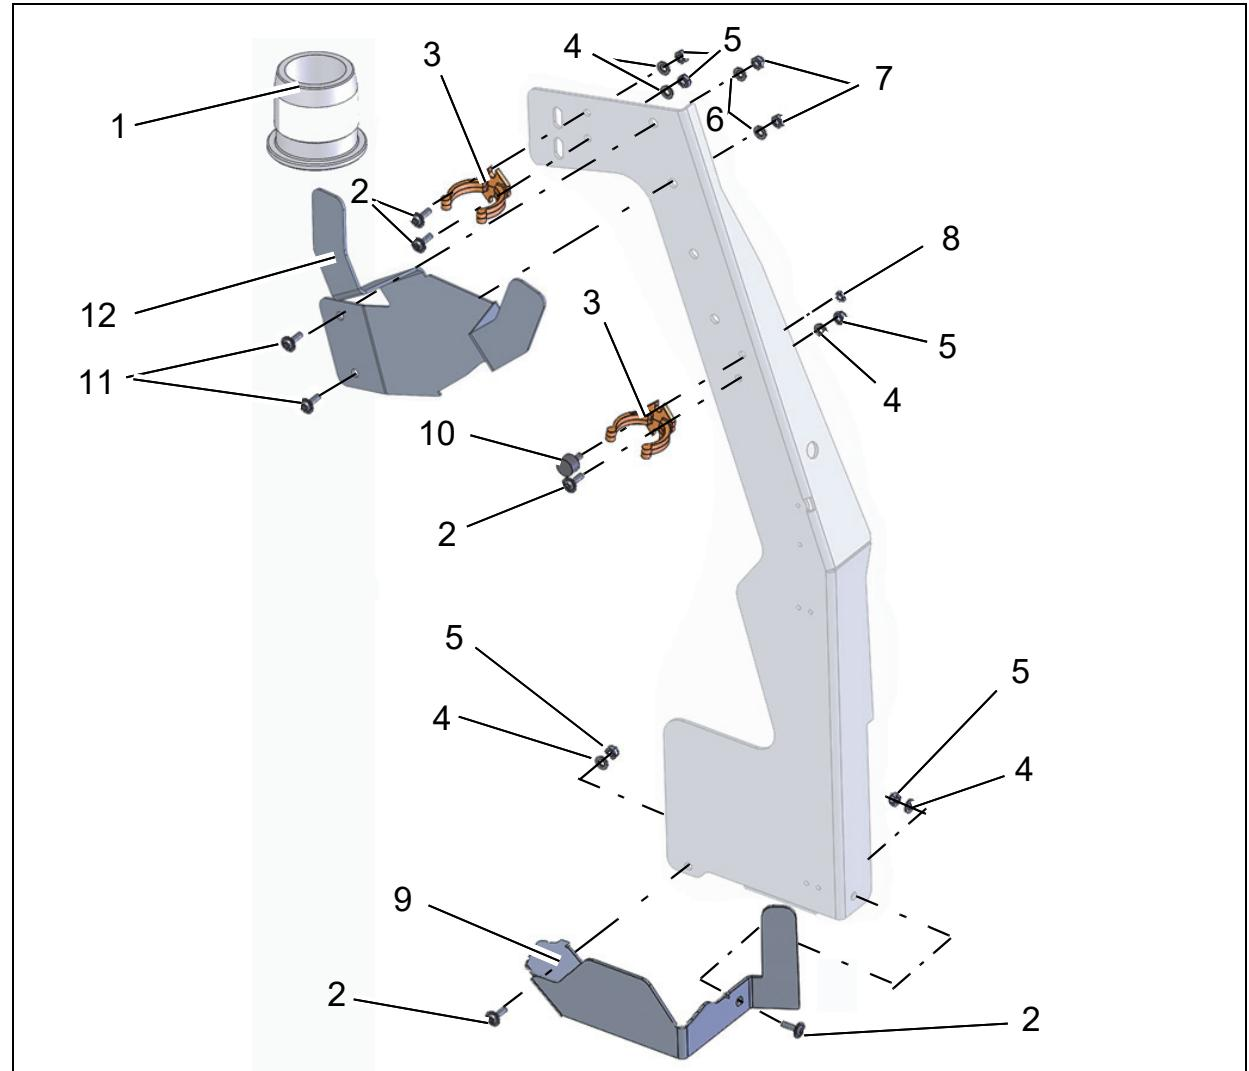
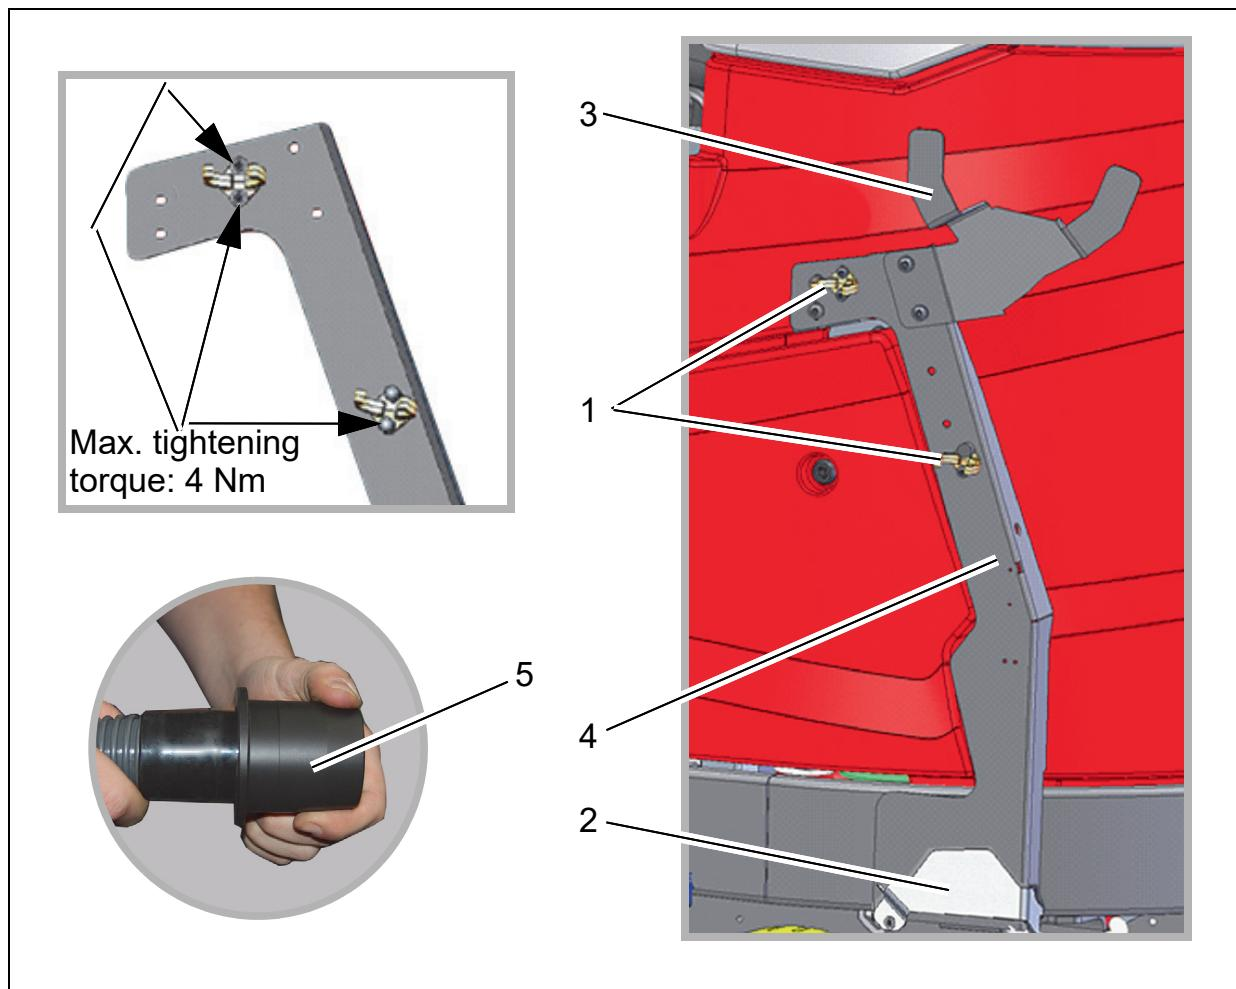

Fig. 1
Fig. 2
1. Fix the two hose brackets (Fig. 2/1), the mounting plate (Fig. 2/2) and the holder for the spray suction tool (Fig. 2/3) to the tool holder (Fig. 2/4) using the standard parts (see Fig. 1).
2. Push the adapter firmly onto the hose of the spray suction tool (Fig. 2/5).